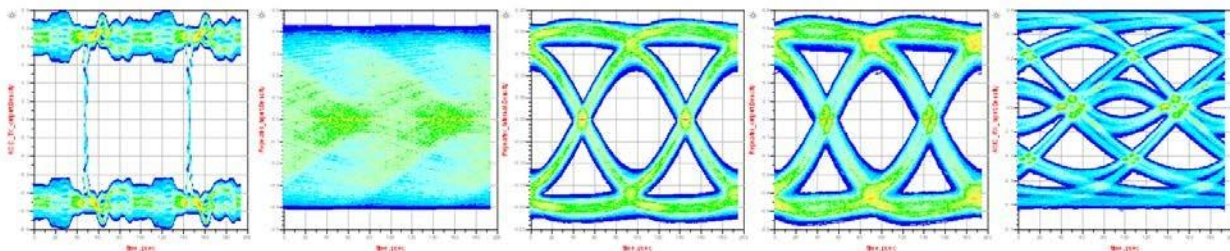
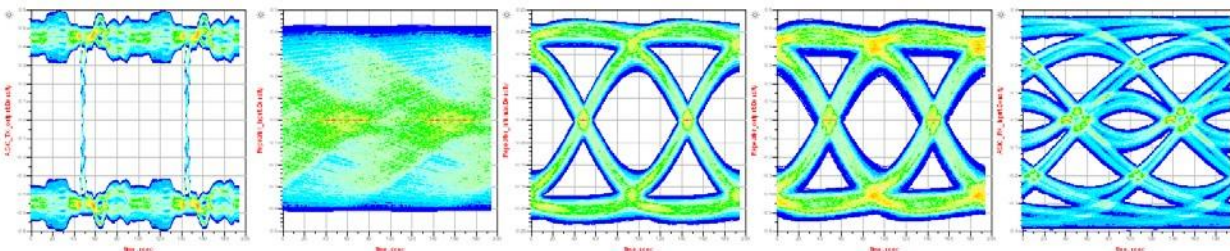
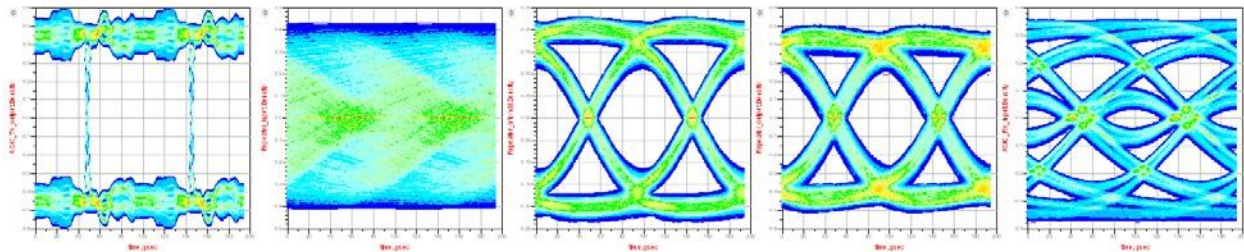
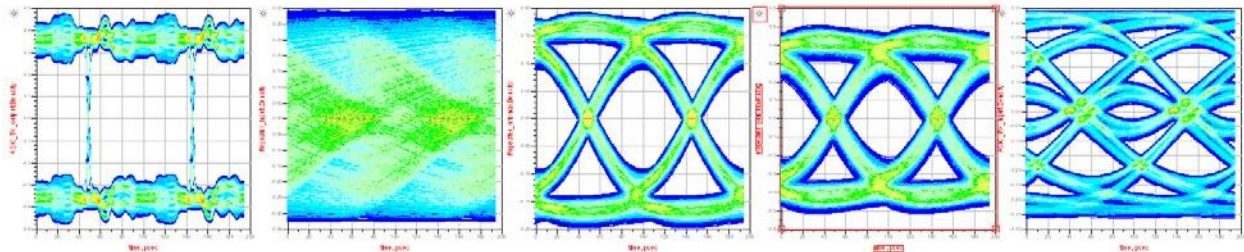

Figure 4: ASIC TX amplitude= \sim 1000mVppd, Limit=0, EQ_Level=5, VOD=7, DE_Level=0
Figure 5: ASIC TX amplitude= \sim 1000mVppd, Limit=0, EQ_Level=5, VOD=6, DE_Level=0
Figure 6: ASIC TX amplitude \approx 1000mVppd, Limit=0, EQ_Level=5, VOD=5, DE_Level=0
Figure 7: ASIC TX amplitude \approx 800mVppd, Limit=0, EQ_Level=5, VOD=7, DE_Level=0
- Figure 4, Figure 5, and Figure 6 demonstrate that the output VOD does not change much with VOD setting. They are all very similar to each other, and the VOD=7 case is the most linear.
- Figure 7 demonstrates that in linear mode, when the input amplitude changes, the output amplitude follows that change. Figure 4 shows that the output amplitude is about 1000mVppd for a 1000mVppd input. Figure 7 shows that the output amplitude is about 800mVppd for an 800mVppd input.